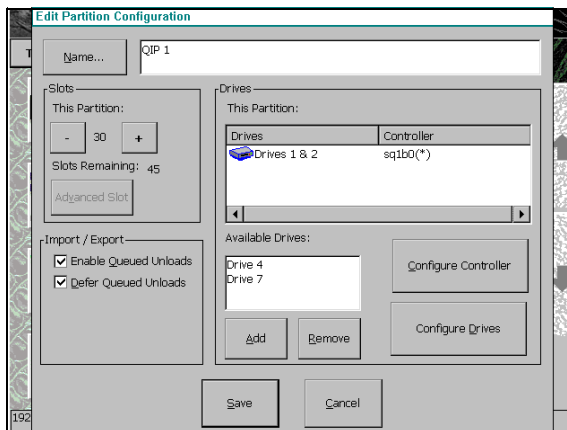

Figure 8-2 Partition Configuration window.
3. Tap **Edit**. The Edit Partition Configuration window appears (Figure 8-2).